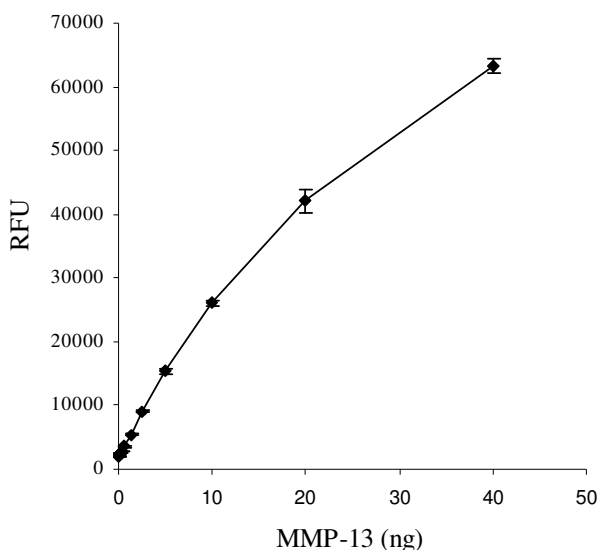

Figure 1. Sensitivity of the SensoLyte[®] 520 MMP-13 assay kit
The SensoLyte[®] 520 MMP-13 Assay Kit provides a convenient assay for high throughput screening of MMP-13 inducers and inhibitors. It also detects MMP-13 activity in a variety of biological samples using a 5-FAM/QXL[™] 520 fluorescence resonance energy transfer (FRET)² peptide. In the intact FRET peptide, the fluorescence of 5-FAM is quenched by QXL[™] 520. Upon cleavage into two separate fragments by MMP-13 (**Scheme 1**), the fluorescence of 5-FAM is recovered, and can be monitored at excitation/emission wavelengths = 490 nm/520 nm. With excellent fluorescence quantum yield and longer wavelength, 5-FAM shows less interference from auto fluorescence of test compounds and cellular components. This 5-FAM/QXL[™] 520 substrate can detect the activity of nanogram of MMP-13 (**Figure 1**).
- Plot data as RFU versus concentration of test compounds or enzyme concentration (Figure 1).